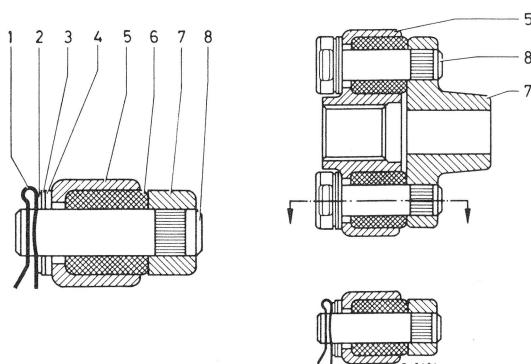

Fig. 1
**1** Remove SL-lock (1) from both bolts (8), remove washers (2 and 3) and plastic washers (4). Then pull lower flange (5) from upper flange (7) and remove both bushings (6) (Fig. 1).